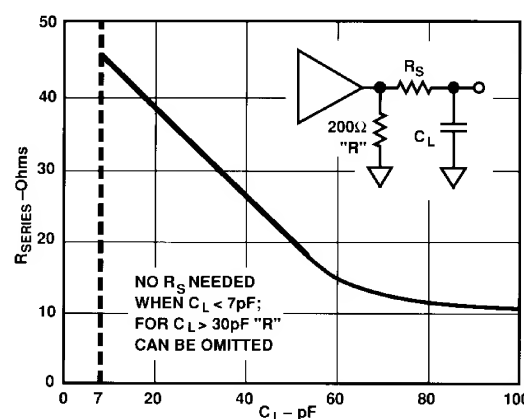
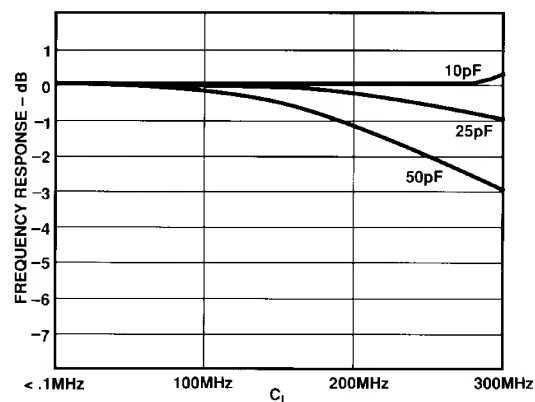

Figure 1. Recommended R_S vs. C_L
Figure 2. Frequency Response vs. C_L with Recommended R_S
Parasitic or load capacitance (>7 pF) connected directly to the AD9630 output will result in frequency peaking. A small series resistor (R_S) connected between the buffer output and capacitive load will negate this effect. Figure 1 shows the optimal value of R_S as a function of C_L to obtain the flattest frequency response. Figure 2 illustrates frequency response for various capacitive loads utilizing the recommended R_S .
*SEE PINOUTS **SEE FIGURE 1